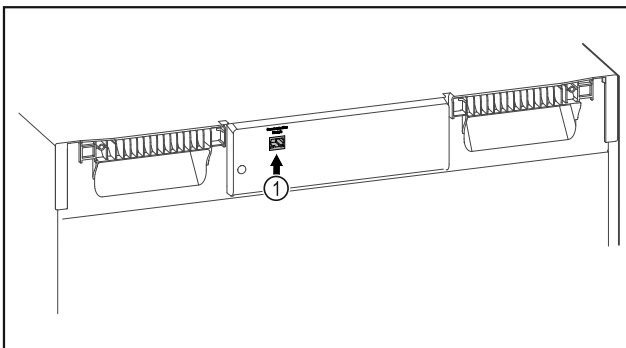

Fig. 112
- ❑ SmartModule Fig. 112 (1) is in use.